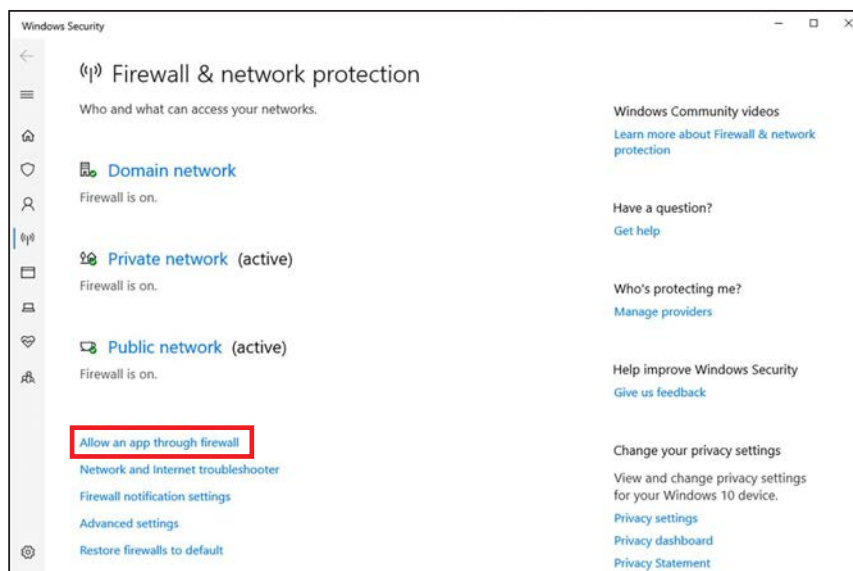

Figure 44. The *Firewall & network protection* screen.
STEP 2. Select “Allow an app through firewall.” Administrative privilege is required. See Figure 44.